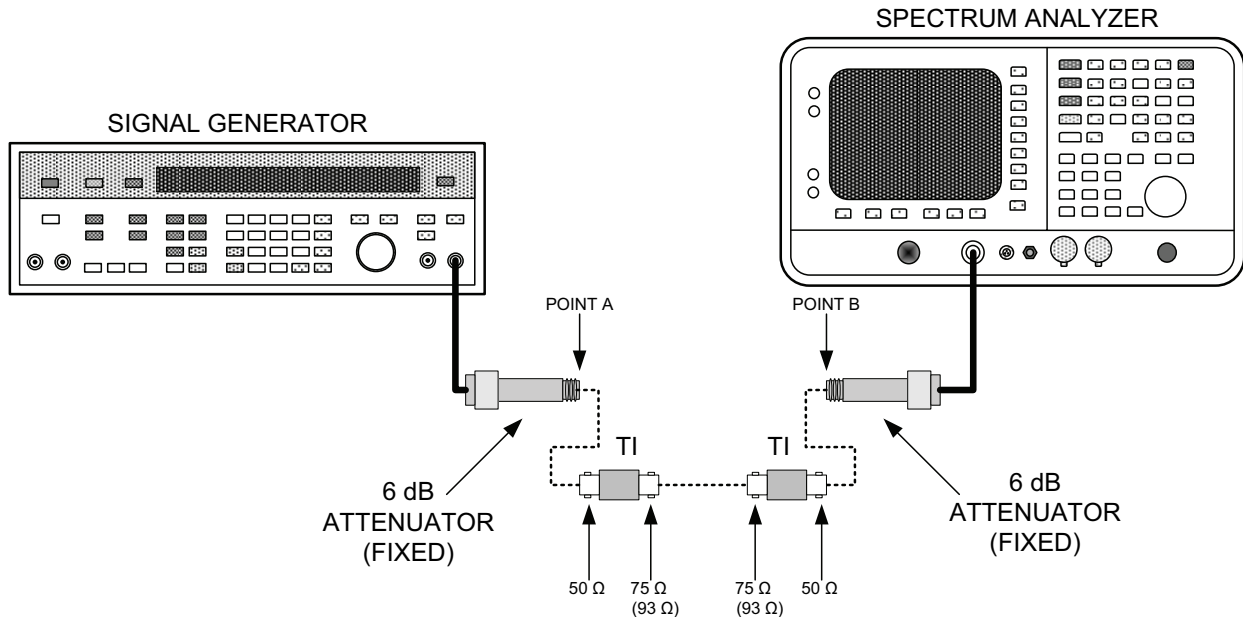

Figure 2. Insertion loss - equipment setup.
- (1) Connect equipment as shown in figure 2. Connect points A and B together.
- (2) Adjust signal generator 200 MHz output at 0 dBm.
- (3) Set spectrum analyzer to measure a 200 MHz signal.
- (4) On spectrum analyzer, press **PEAK SEARCH**, **MARKER**, and **[DELTA]** to set up delta marker reference measurement.